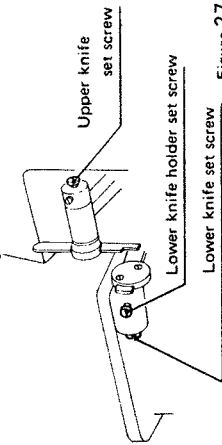

Figure 27
- 1) The upper knife may be changed after loosening the upper knife set screw and the lower knife may be changed after loosening the lower knife holder set screw and the lower knife set screw as shown in Figure 27.